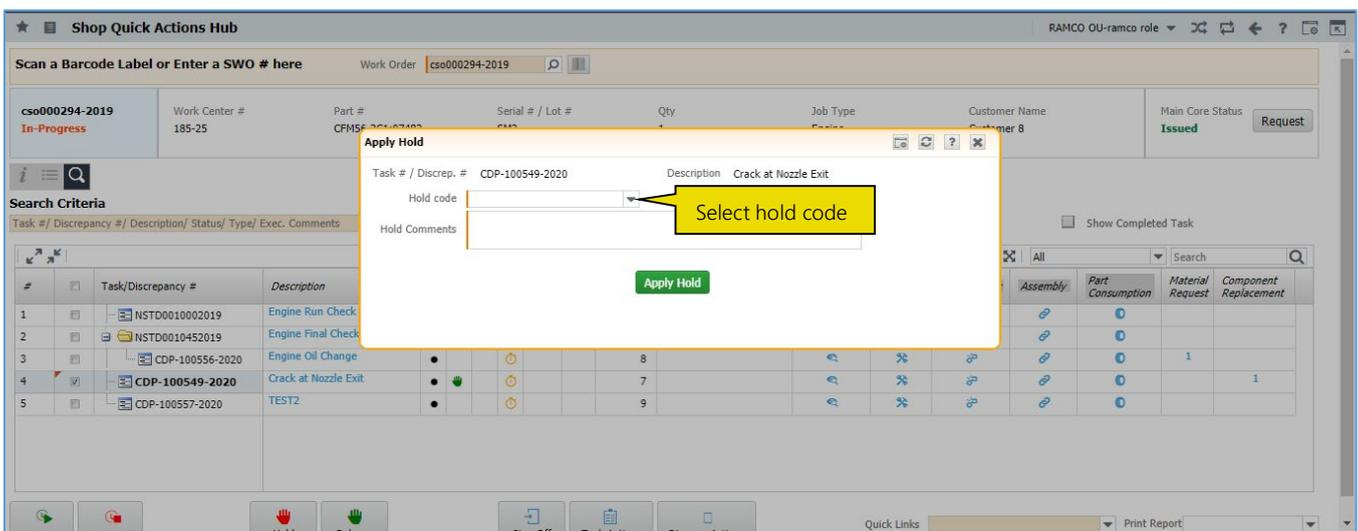

Figure 2.4 Applying hold on task
- Click on the **Hold** button. The **Apply Hold** popup appears with the tasks. See *Figure 2.4*.